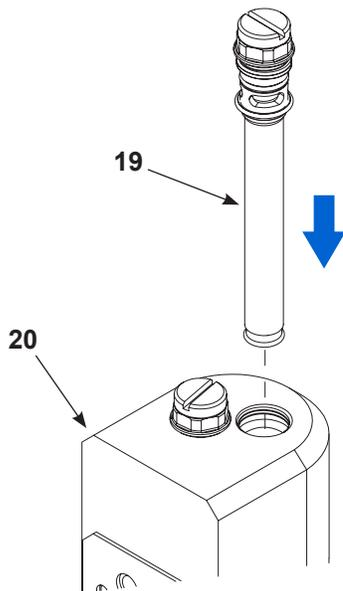

Figure 25 Fasten Fluidizing Tubes into Manifold
- See Figure 25. Insert the assembled fluidizing tube (19) into the top of the purge manifold (20). Snug fit tubes to manifold.